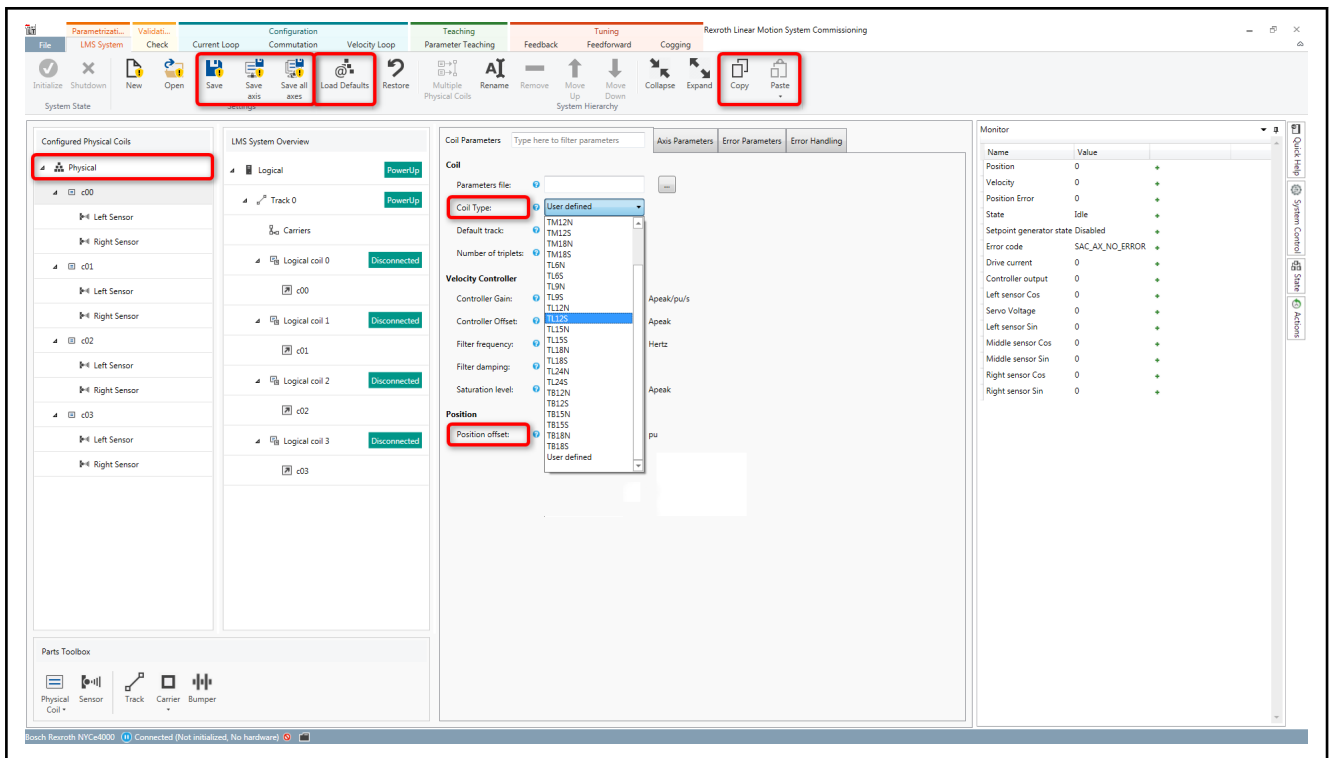

Fig. 4-4: Parameterization - first steps
Now that the tree view is complete, you can select the correct coil type for each coil, see fig. 4-4 "Parameterization - first steps" on page 17.
- Click the "Save" button to save the LMS configuration file, see fig. 4-4 "Parameterization - first steps" on page 17.